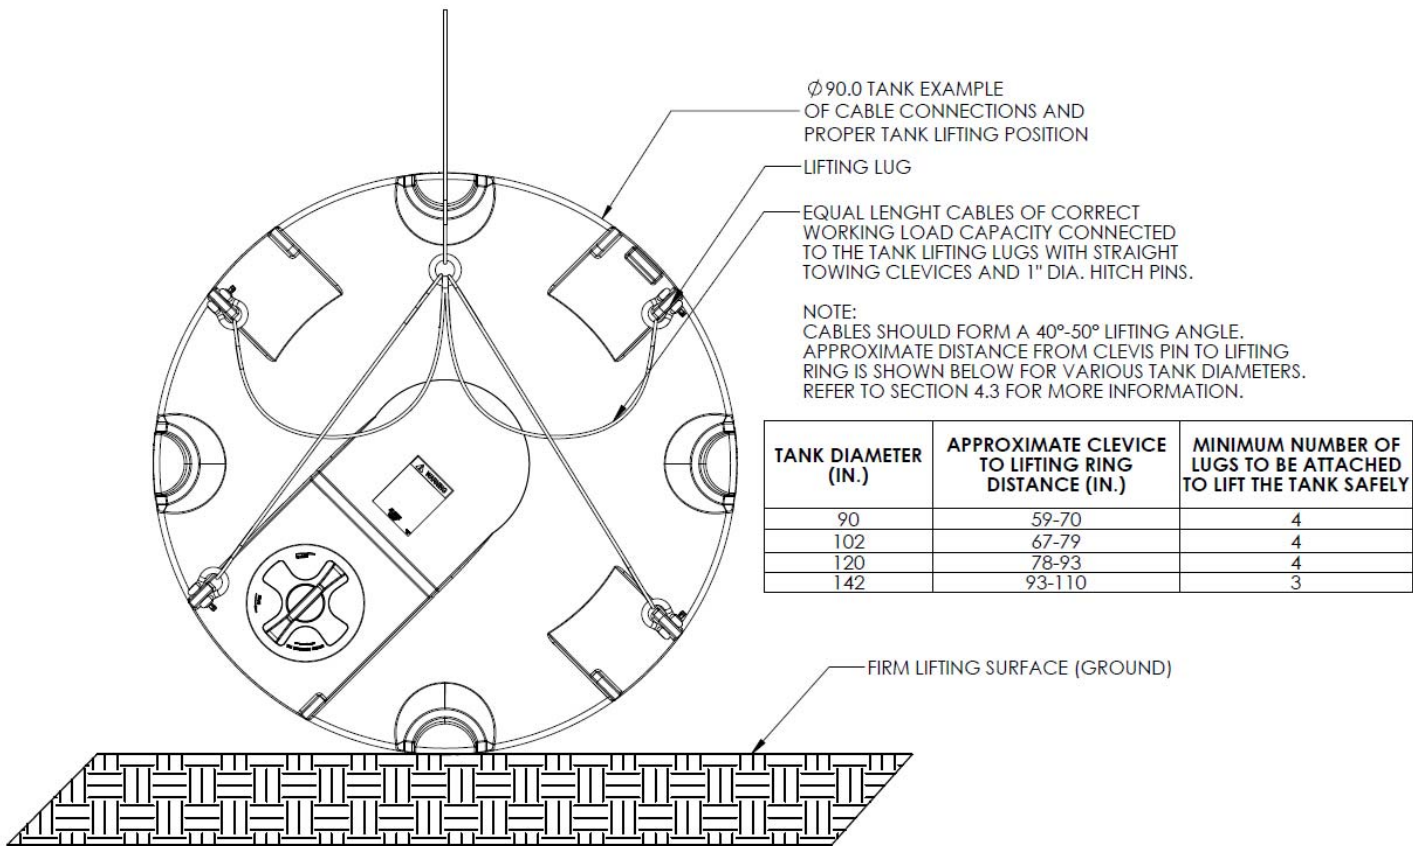

Figure 4.3.4
4.3.4 After the tank has been placed on a firm, level surface in a horizontal position, the lifting lugs may be used to erect the tank in a vertical position on an appropriate support pad. The tank should be lifted using a symmetrical arrangement of lugs to disperse the load evenly throughout the tank. To properly attach to the lifting lugs a straight clevis should be used with a minimum open throat distance of 1-1/2" and 1" diameter pins. A minimum of 4 lugs should be attached with equal length cables on all large vertical tank sizes except 142" diameter tanks. 142" diameter tanks require 3 lugs to be attached. All tanks should be positioned with 2 lugs closest to the ground prior to lifting the tank to the vertical position. Refer to Figure 4.3.4 for additional information. If the tank does not have lifting lugs, it may be necessary to rig